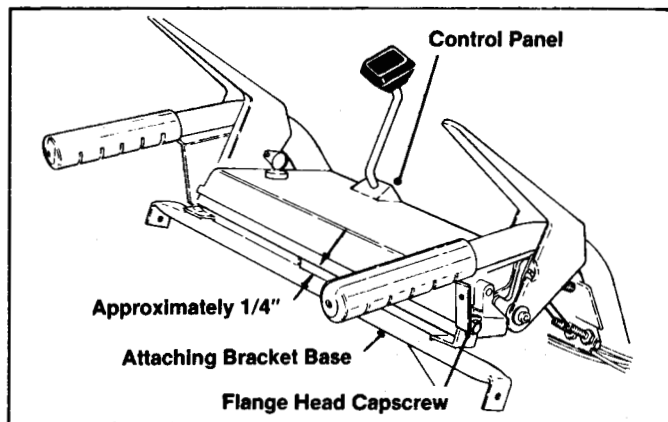

Figure 135
2. Remove the two flange head capscrews securing the control panel to the handles (one on each side). Loosely secure the attaching bracket base to the handles with the flange head capscrews removed. See Figure 135.